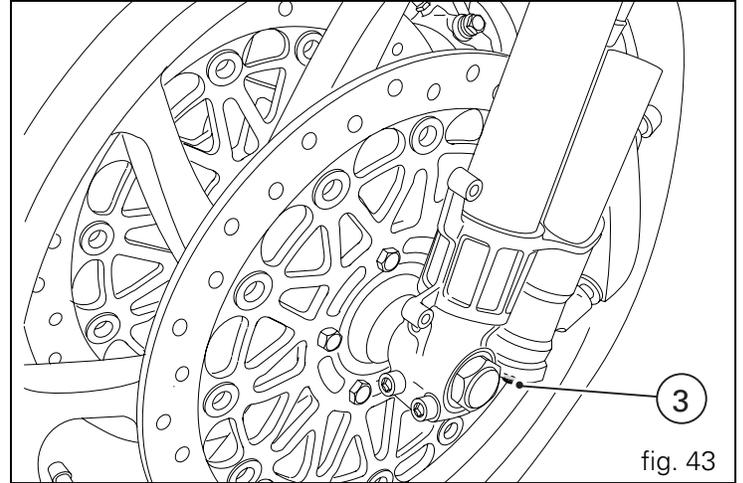

fig. 43
- 3) to adjust high-speed (fig. 42) and low-speed (fig. 43) compression damping.
Turn the adjuster (3, fig. 43) under left fork leg bottom with a suitable wrench to adjust high-speed compression damping.